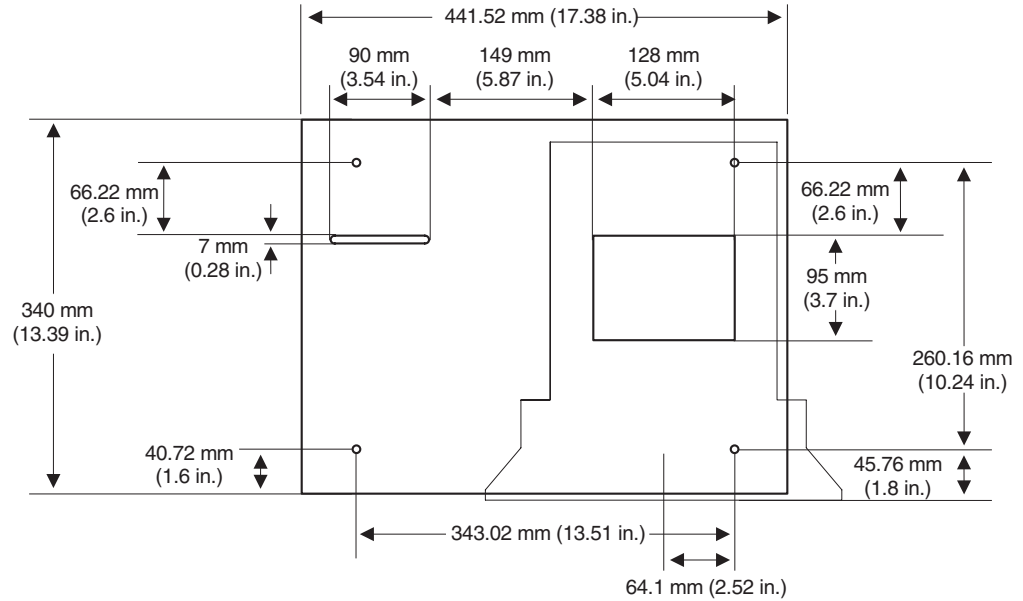
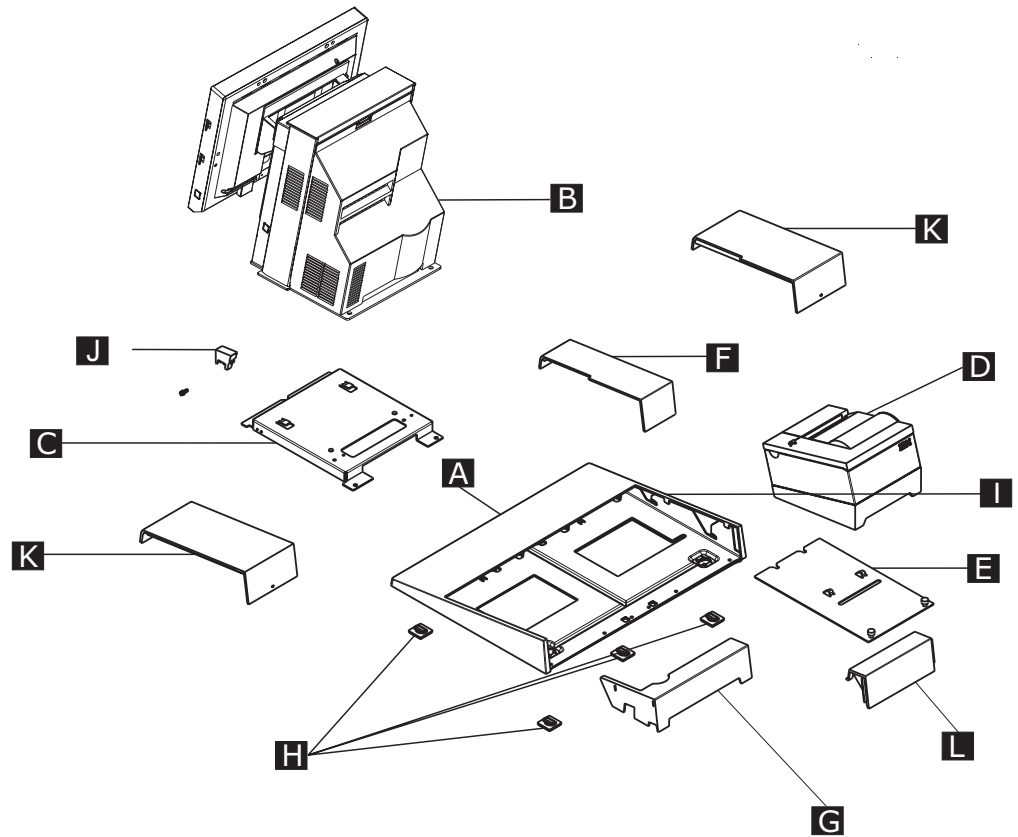

Figure 44. Countertop integration tray pattern with display and countertop cutout on right side
Figure 47. Overview of integration tray, SurePOS 500, printer, and filler panels
The countertop integration tray can be used as a free-standing unit or secured to a countertop using mounting screws. Use the countertop integration tray drawing that comes with it as a pattern for drilling the four mounting holes and for the cable opening, if you plan to route the cables through the countertop. Four screws (not provided) are required to mount the integration tray to a countertop. For specific mounting hole and cutout dimensions, see Figure 44 on page 75.
1. For a free-standing unit, ensure that the four rubber feet **H** are installed on the bottom of the countertop integration tray (as shown in Figure 47 on page 77).
- b. Drill the four mounting holes and cut a hole in the countertop for cables, if needed. Use Figure 44 on page 75 or the openings in the integration tray as a pattern for drilling mounting holes and a cable opening in the counter. See Figure 47 on page 77 for reference.
- c. Remove the four rubber feet located on the bottom of the integration tray. See Figure 47 on page 77 for the location of the feet.
6. Attach the SurePOS 500 and its mounting plate **C** to the right side of the integration tray **I** as shown in Figure 47 on page 77. Slide the front of the mounting plate under the appropriate pair of tabs on the tray and secure the rear of the mounting plate to the tray with two thumbscrews.
1. Install the mounting plate in the **center** of the base using the removable thumbscrews. See Figure 47 on page 77.
3. For installations **without a printer**, install the mounting plate in the *center* of the base using the removable thumbscrews. Place the filler panels on both sides. See Figure 47 on page 77. Install rear system panel **G** first and use filler panels **K** to lock in filler panel **G** onto the tray.